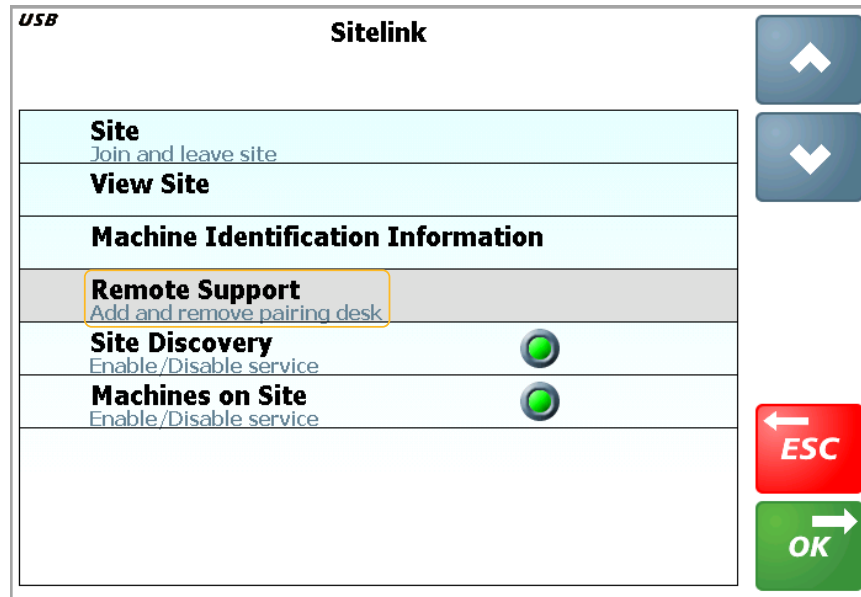

Figure 3-5: Load Weighing Display Sitelink Screen Remote Support
4. Select **Sitelink**, then select **OK** to open the **Sitelink** screen (Figure 3-5).